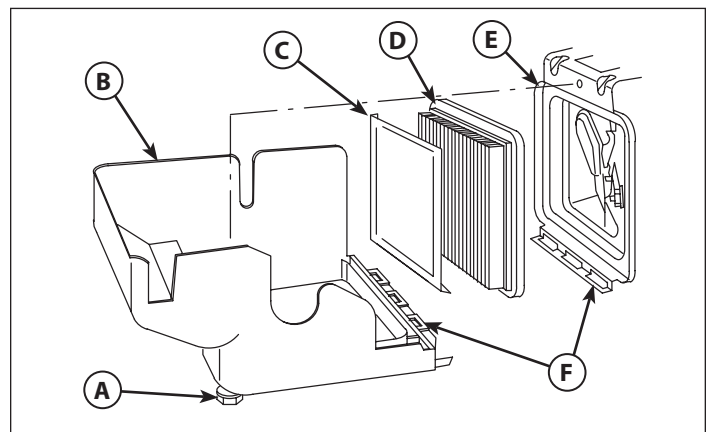

FIGURE 14 - Change Air Filter.
1. Loosen the screw (A) and remove the filter cover (B). **SEE FIGURE 14**
2. Inspect the pre-cleaner (C) and air filter element (D). If either are soiled, then replace.
3. Insert the new pre-cleaner (C) and air filter element (D) inside the filter cover (B). Make sure the arrows on the filter element are pointed up, and the lip of the pre-cleaner covers the bottom filter pleats.
4. Insert the cover tabs (F) into the filter base slots.
5. Tilt the cover up into place and tighten the screw (A).
7. Reassemble the hammers, spacers, washers, and cap screws. Torque the socket head cap screws (A) to 30-35 ft. lbs. (41-47 N.m.) Refer to Figure 14 for assembly. The J-hammer (G) on the opposite side of the rotor faces outward for balanced rotation.